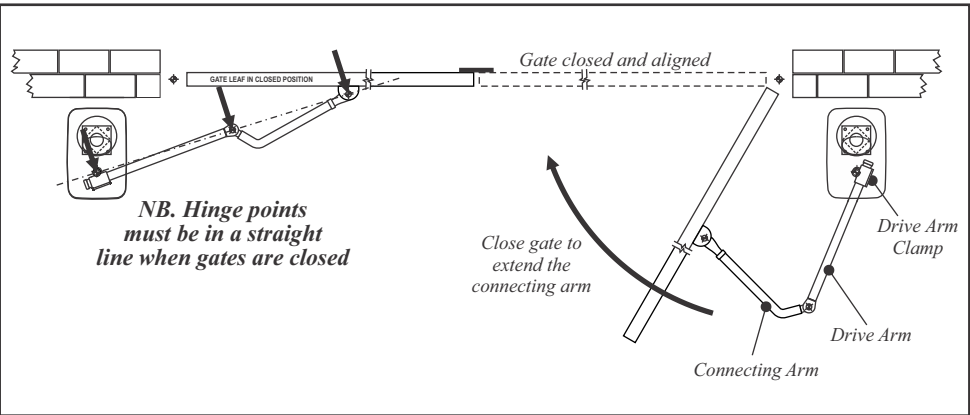

Figure 22 Align Gates
15. Using the gate as a lever, slowly close the gate to extend the connecting arm. **When the gate is completely closed, the hinge points of the connecting and drive arms must be in a straight line** (see Fig. 22).
18. When the connecting and drive arm hinge points are in a straight line (Fig. 22), **release the TEST button**. (The gate will now be in the CLOSED position). Light L1 must now be **OFF** when setting the Master, or L2 **OFF** when setting the Slave motor.